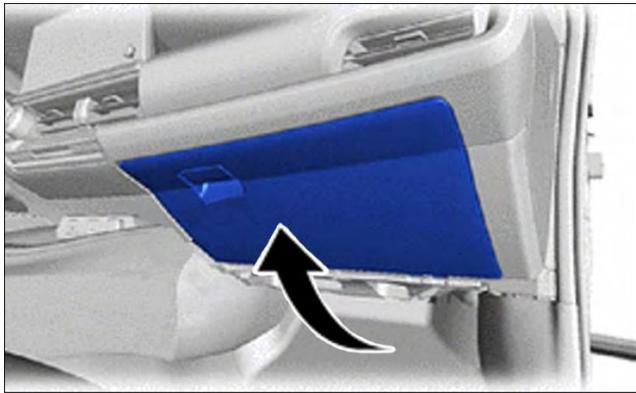

Figure 64
- (c) Close the glovebox, as shown in Figure 64.